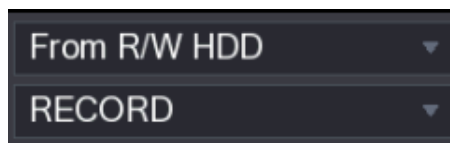

Figure 5-96
- **From R/W HDD:** Recorded videos or snapshots playback from HDD of the Device. See Figure 5-96.